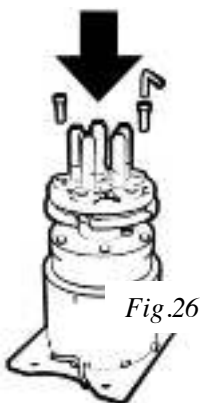

Fig.26
- Fit the flange onto the turntable and secure it using two bolts supplied (ref. fig.26). Make sure to position it properly.